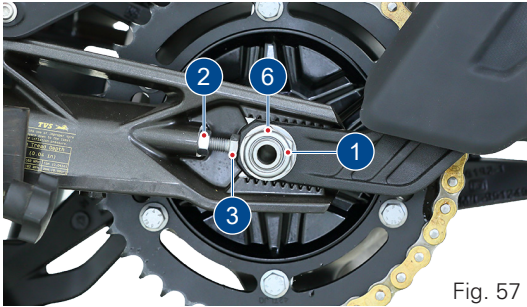

Fig. 57
- Similarly, tighten the rear axle nut and lock nut to the specified torque, and check and ensure the chain slackness (ref. Fig. 57 & 58).